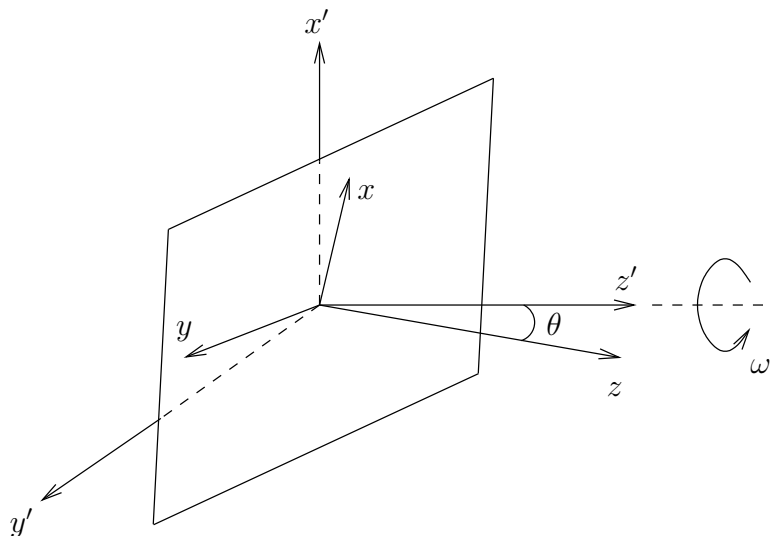

Figure 1: Thin square plate
- (a) Take the origin at the centre O of the square. For a coordinate frame attached to the square, take the plane of the square as the xy -plane with the x - and y -axis parallel to the sides. The z -axis, which is along the normal, makes an angle θ with the z' -axis of the laboratory frame about which the square rotates, as shown in figure 1. We also assume that the x -, z - and z' -axes are coplanar.